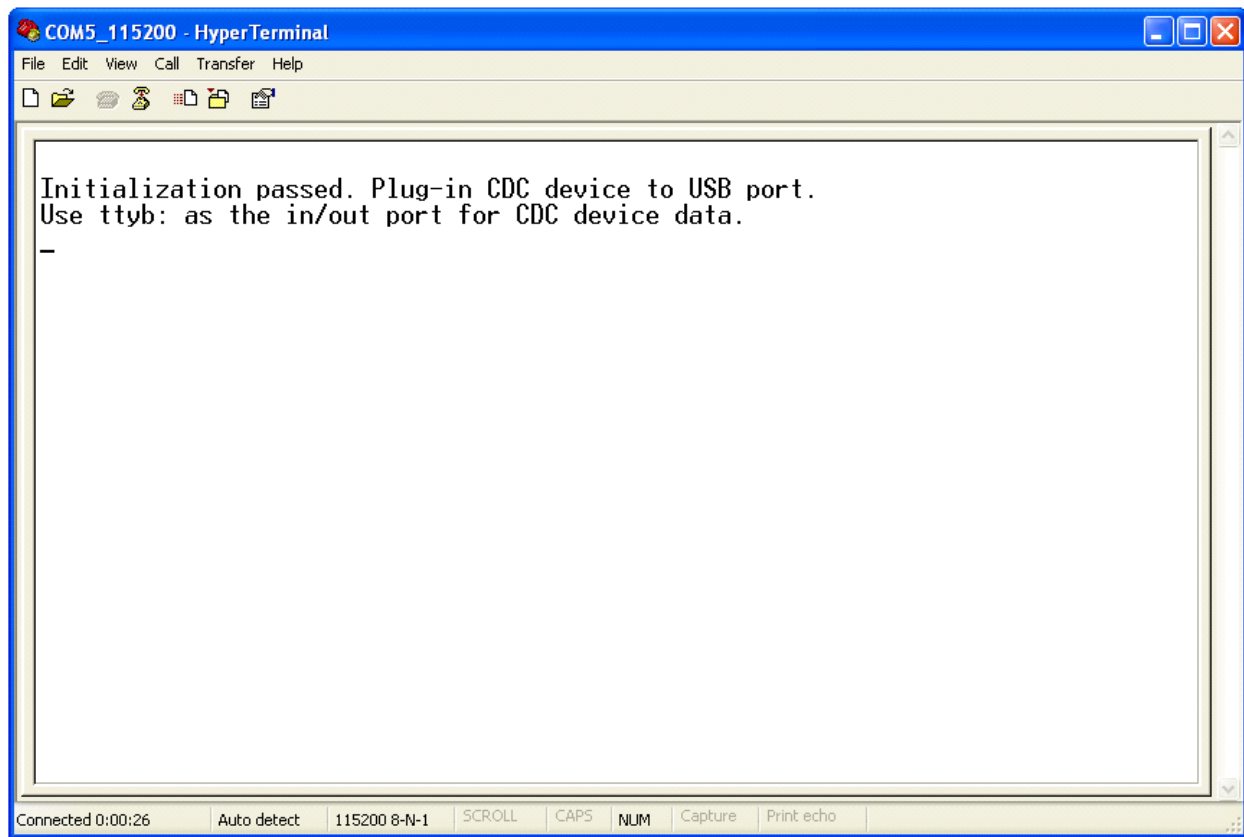

Figure C-2. USB Host waits CDC device plug-in
3. Run the Demo. The HyperTerminal shows a message as in Figure C-2: